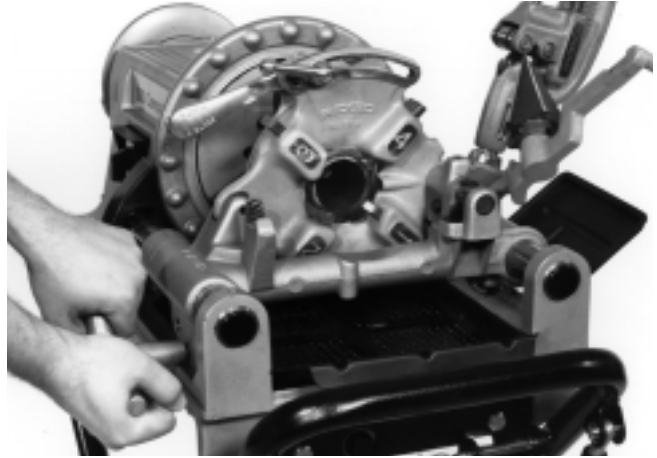

Figure 10 – Threading Pipe With No. 811-A Quick Opening Die Head
5. Turn carriage handwheel to bring dies against end of pipe. Slight pressure on handwheel will start dies (*Figure 10*).